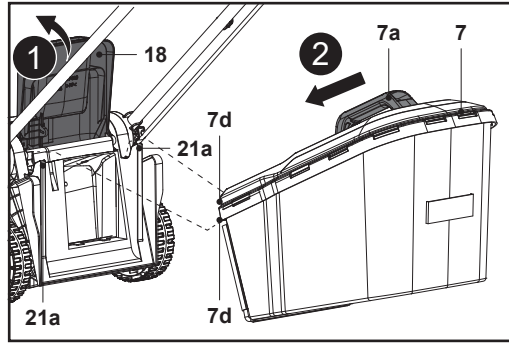

Fig. 7
4. Open the rear deflector guard (18) and hold it in position (Fig. 7, step 1).
5. Carry the grass catcher (7) by its carry handle (7a).
6. Align the two catcher hooks (7d) with the slots (21a) and hang the grass catcher (7) onto it (Fig. 7, step 2).
7. Carefully release the rear deflector guard (18) afterward.